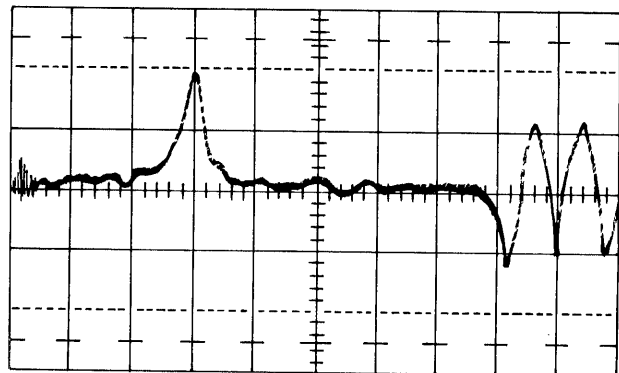

Figure 5-72. Radial Adjustment
- f. Monitor read data/playback (see Figure 5-72).